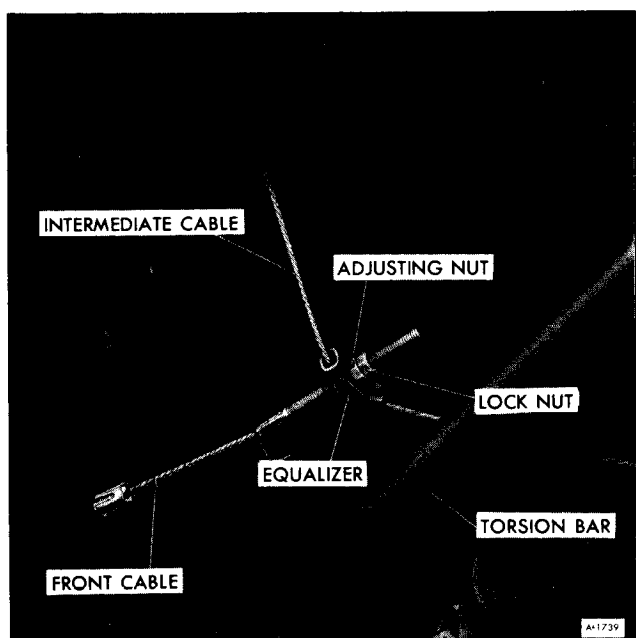

Figure 25—Parking Brake Cable
2. Remove lock nut and adjusting nut from front equalizer (Refer to figure 25).
3. Remove lock nut and adjusting nut from front equalizer as shown in Figure 25.